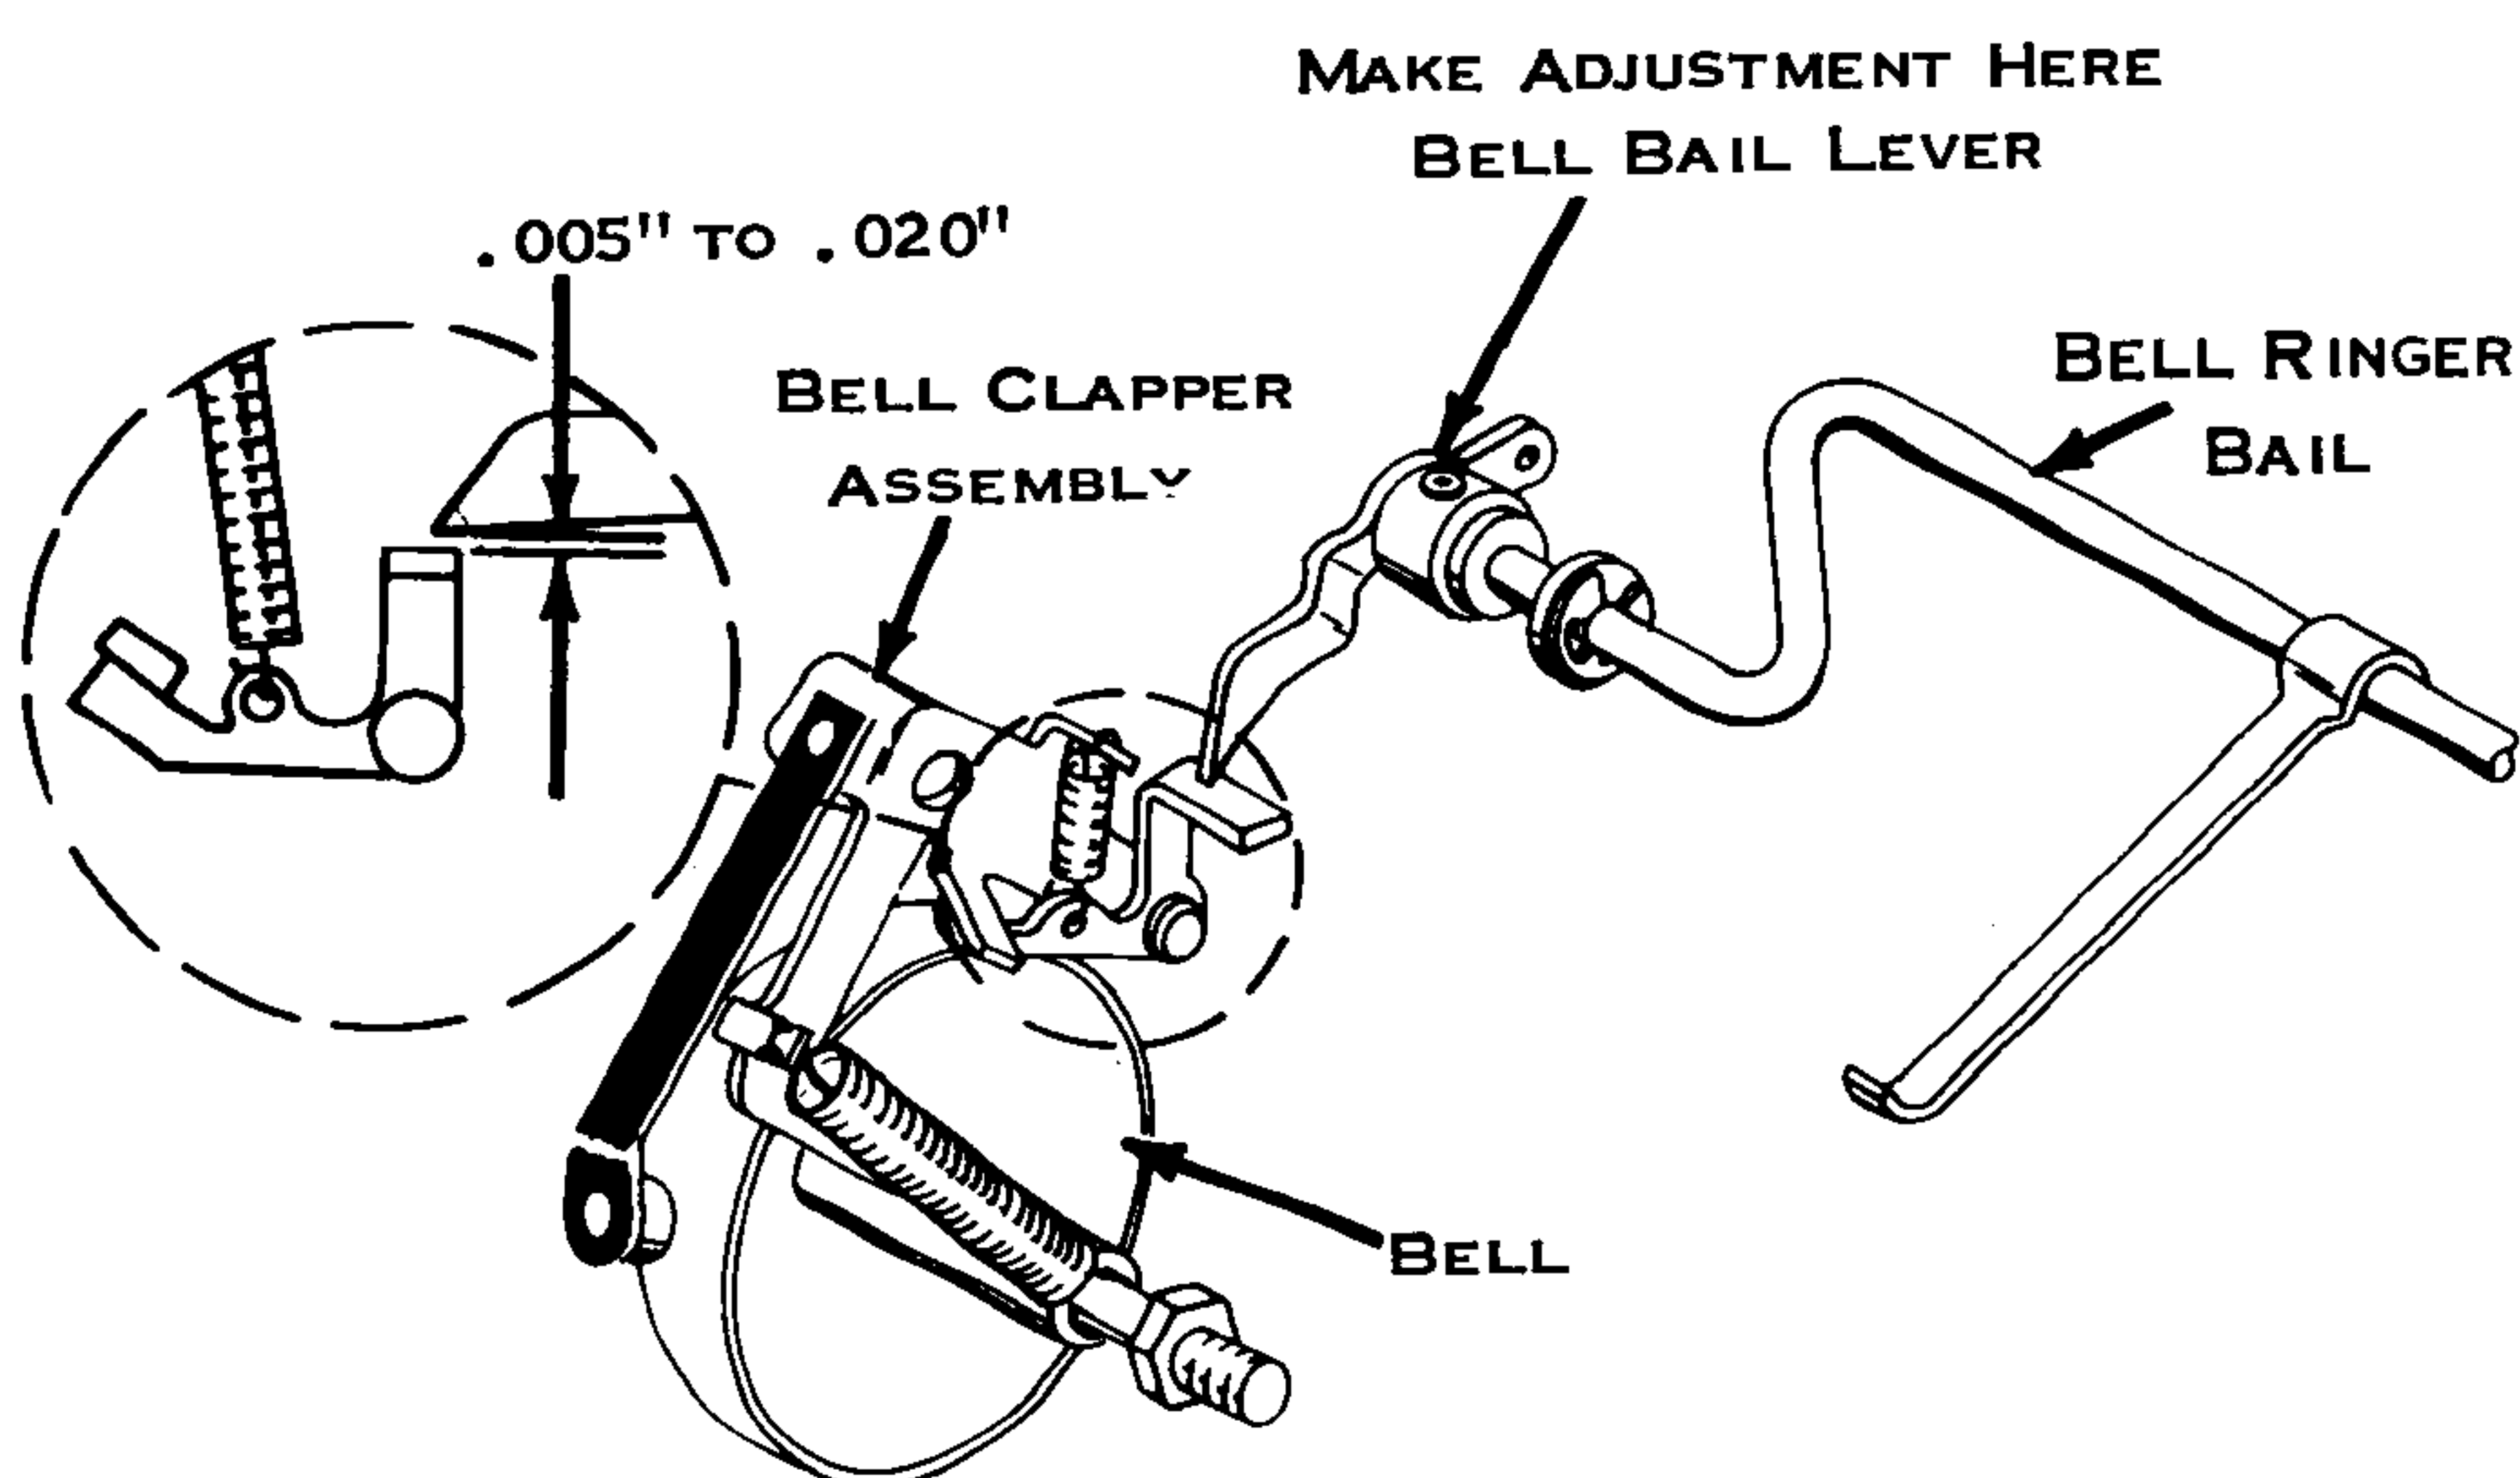

Figure 191. Lever (OLD)
7. Bell Ringer Bail Lever, Old-Style (Fig. 191) - The lever at the left end of the bail should be adjusted to have .005" to .020" clearance between the bell clapper bellcrank lever and bell bail lever when the bail is at rest against its stop.